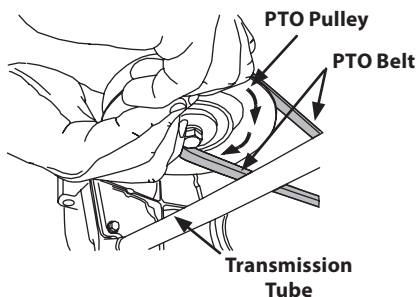

Figure 4-18
- d. While still holding the belt downward, continue turning the PTO pulley until the belt is rolled off the pulley. Refer to Figure 4-18.
11. Pull the right side of the belt rearward and place the narrow V side of the belt into the PTO pulley. See Figure 4-18.
12. While holding the belt and pulley together, rotate the pulley to the left (See Figure 4-18). Continue holding and rotating the pulley and belt until the belt is fully rolled into the PTO pulley.